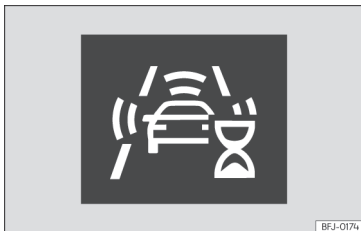

Fig. 121 On the instrument cluster screen: indication of the system's initial self-calibration.
- In the first few instants of driving after switching on the ignition, due to the system's initial auto-calibration. During this period, a status icon  Fig. 121 is displayed.